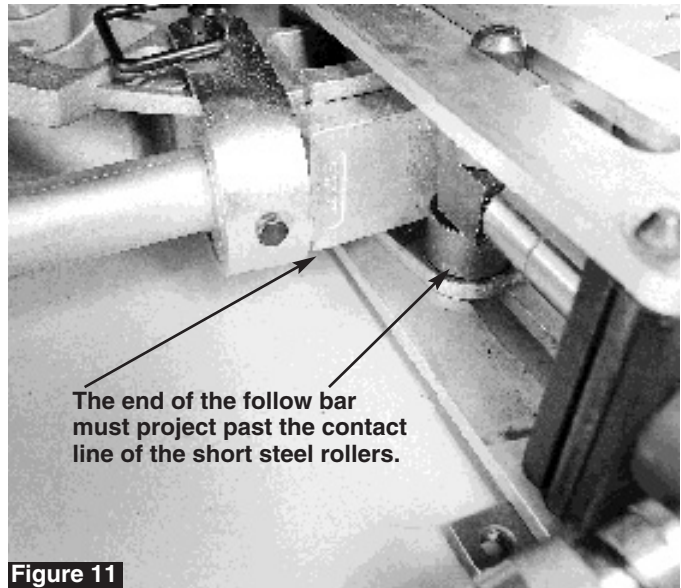

Figure 11
13. The end of the follow bar must be inserted at least as far as the rollers at the cylinder rod eye so that all of the short steel rollers can ride on the follow bar pressure surface (see Figure 11).